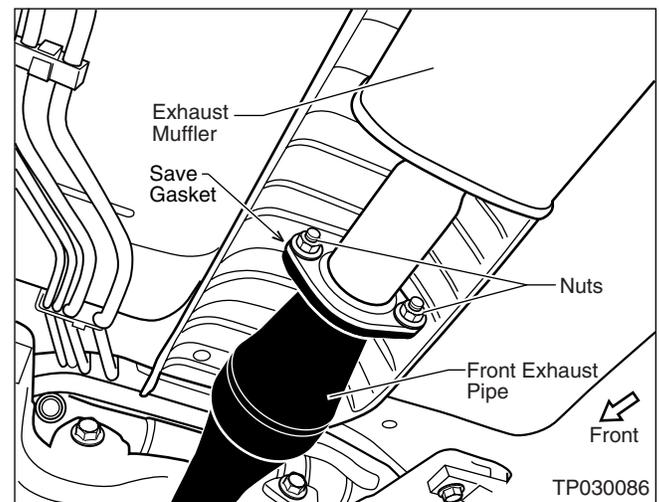

Figure D2
2. Remove the two nuts that secure the Front Exhaust Pipe to the Muffler (see Figure D2). Then, separate the Front Exhaust Pipe from the Muffler. Save the gasket; you'll need to re-use it.